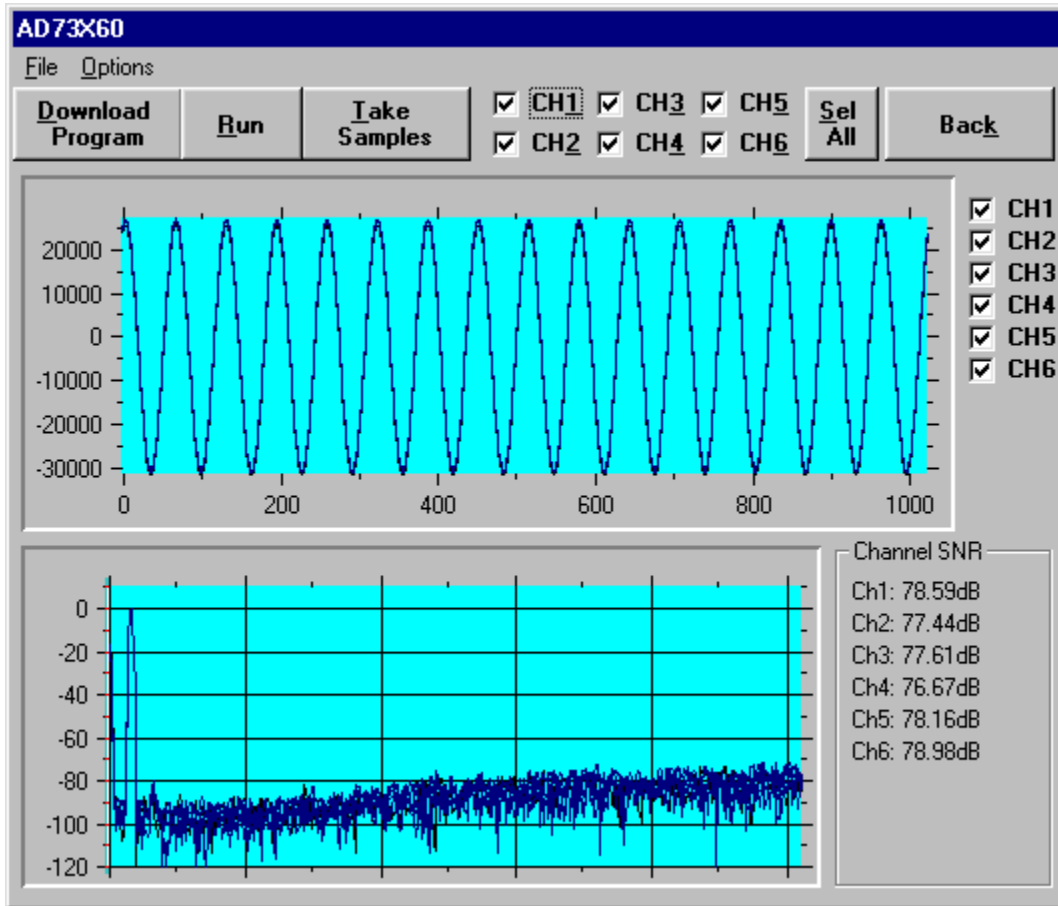

Figure 4. The Demonstration Screen
The Demonstrations Screen will allow the user to select one of a number of demonstration programs which will program the AD73360(L) and read data from one or more selected channels. Figure 4 shows the Demonstrations Screen.